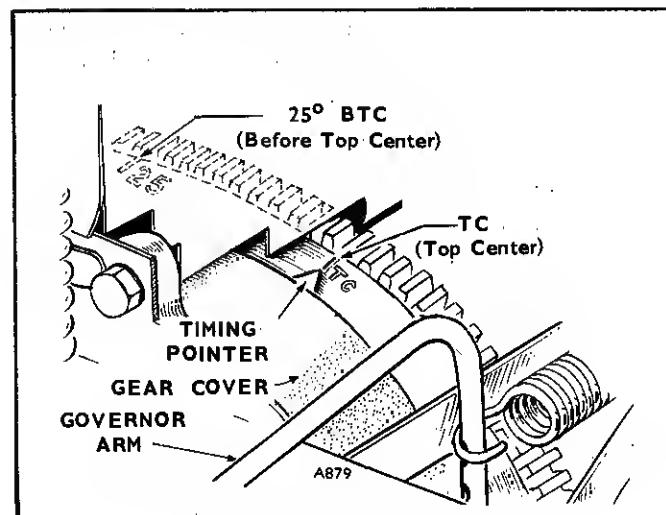

FIGURE 34. TIMING MARK
To adjust the breaker gap, rotate the crankshaft clockwise until the  $55^{\circ}$  ATC mark on the flywheel matches the timing pointer (Fig. 34).
2. Rotate the flywheel clockwise until the TC mark on the flywheel approaches the timing indicator (Fig. 34). Then slowly rotate the flywheel clockwise until the light goes out indicating that the points have opened. This is the ignition point. If timing is correct, ignition will occur at 5° ATC.